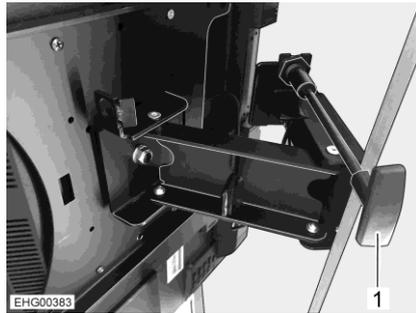

Fig. 76 Holder (one-piece jointed arm)
- Pull and hold handle (Fig. 76,1). The flat screen is unlocked.